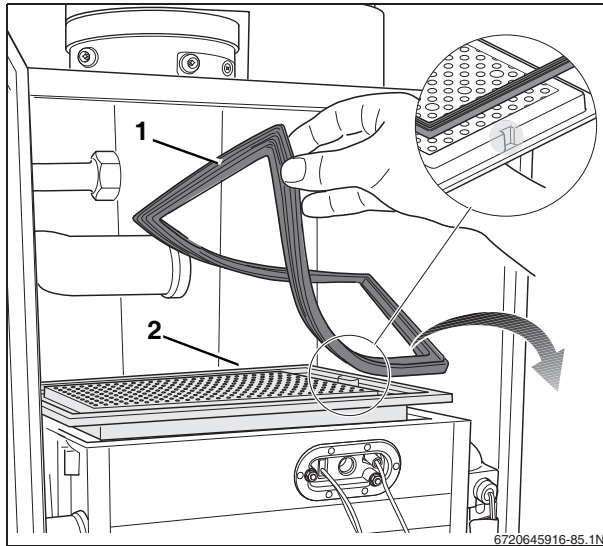

Fig. 84 Removing the burner plate and the burner seal
- Remove the burner seal (fig. 84, [1]) and replace it if necessary.
- Remove the burner plate (fig. 84, [2]) and clean it on all sides using compressed air or a soft brush.
When re-installing the burner plate make sure that the notch is on the right-hand side (fig. 84, → detailed picture).